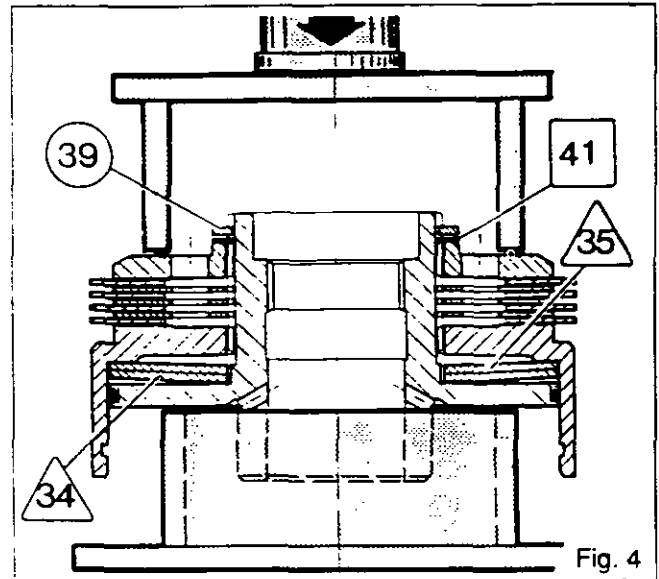

Fig. 4
18. Remove the circlip (6) and take off the pinion (7).
19. Separate the transfer gear (15) from the clutch assembly (16).
20. Remove the circlip (31).
21. Remove the cover (30).
22. Remove the O-rings (29) and (32).
23. Compress the Belleville washers /34\ and /35\ with a press and a suitable device (Fig. 4).
24. Remove the circlip (39) and the shim(s) [41] (Fig. 4).
26. Remove the cover (38), the outer plates (36) and the inner plates (37).
27. Separate the hub (40) from the drum (42).
28. Remove the O-ring (33).
Using a press and a suitable device (Fig. 4) exert a force of approx 2000 daN, to compress the Belleville washers /35\ and /34\.